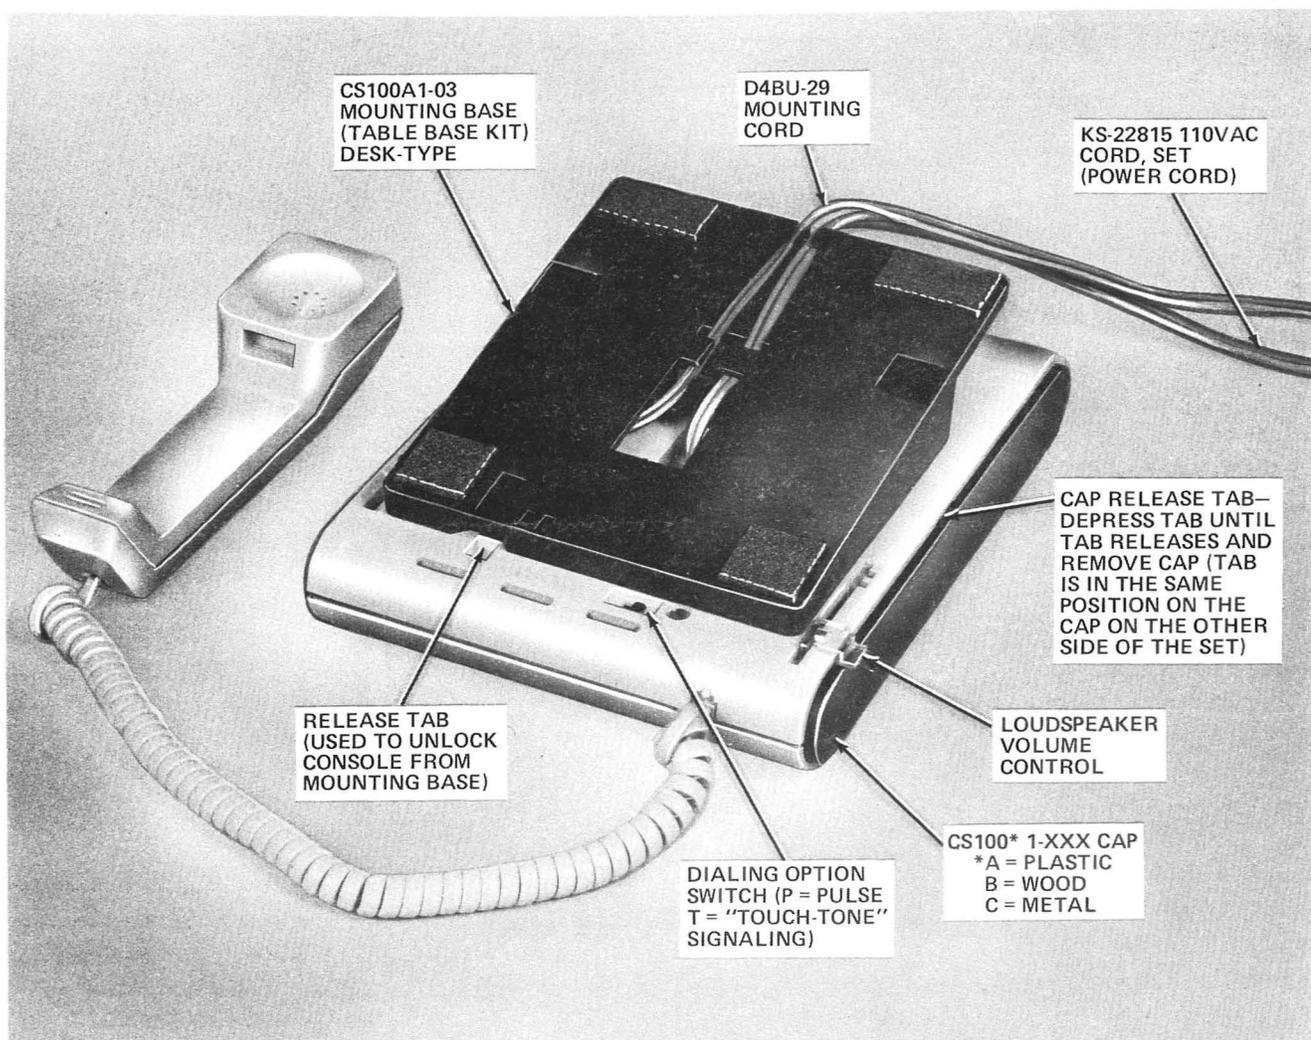
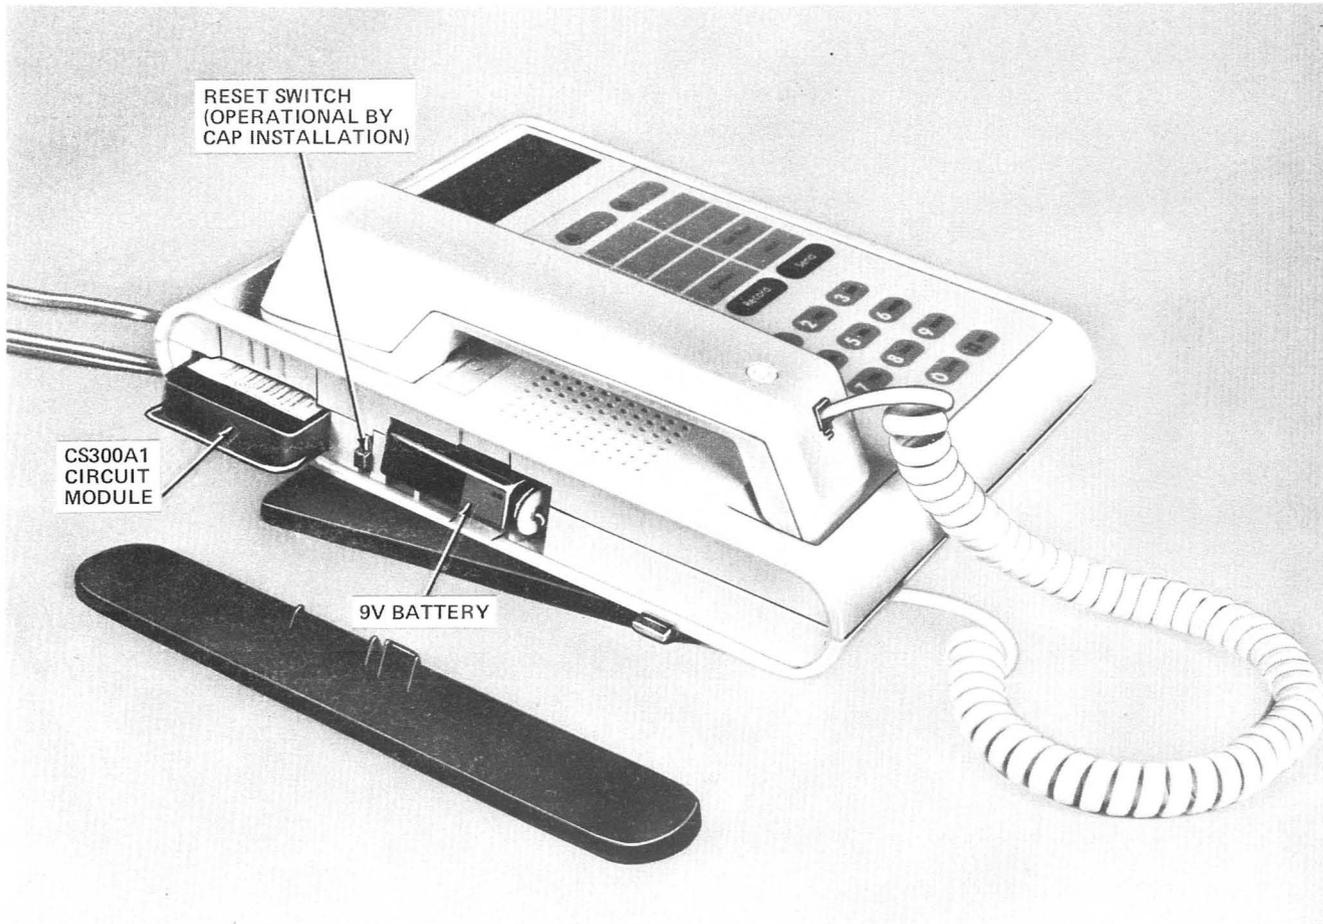

Fig. 3—Bottom View of Console (Desk-Type Mounting Base)
Fig. 11—Circuit Module and 9-Volt Battery Installation (Console)
2.01 The console (Fig. 1 and 2) is microprocessor controlled with enhanced feature capabilities. The console is desk/wall convertible and provided with a field of 18 buttons for feature access, alphanumeric display, speaker, and a 12 button dial key pad which are used to provide many features beyond plain old telephone set (POTS) in the set. Interfaces to the circuit module and telephone modules are also available to expand functional capability. This set is capable of dial-pulse or TOUCH-TONE† signaling from the key pad and repertory dialer. The selection is made with an exterior switch on the bottom of the set (Fig. 3). This set is compatible with existing telephone sets.
- (2) Position the CS100A1 mounting base (table base kit) as shown in Fig. 3 and slide the base toward the top of the set until the release tab locks in place.
- (3) Dress the D4BU-29 and KS-22815 cords as shown in Fig. 3.
- (4) Without intra-premises bus, plug the D4BU-29 mounting cord into the 625-type con-
4.04 The circuit module plugs directly into the console. The cap on the left side of the console is first removed by using a dime (Fig. 3), revealing the module receptacle (Fig. 11). The module is then pushed into the receptacle where contacts in the console make electrical contact with the module. After
- (1) By using a dime, remove the cap (Fig. 3 and 12) on the right side of the console or telephone module that is to receive the new telephone module.
- (2) Join the new module to the basic set or existing attached telephone module so that electrical
the display to indicate the need for immediate battery replacement (Fig. 11) to prevent POTS and emergency service loss in the event of an ac power failure and also to prevent set damage in case of battery leakage. In the event of a low battery, the "LOW BATTERY" prompt will appear in the display, this also indicates immediate battery replacement.